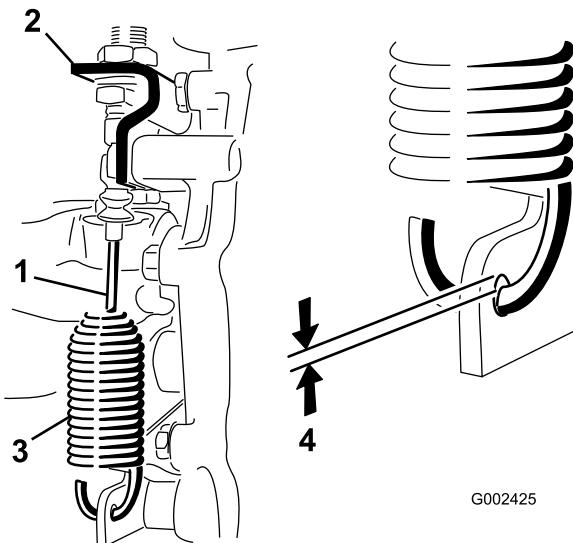

Figure 47
2. Loosen the jam nuts securing the differential lock cable to the bracket on the transaxle (Figure 47).